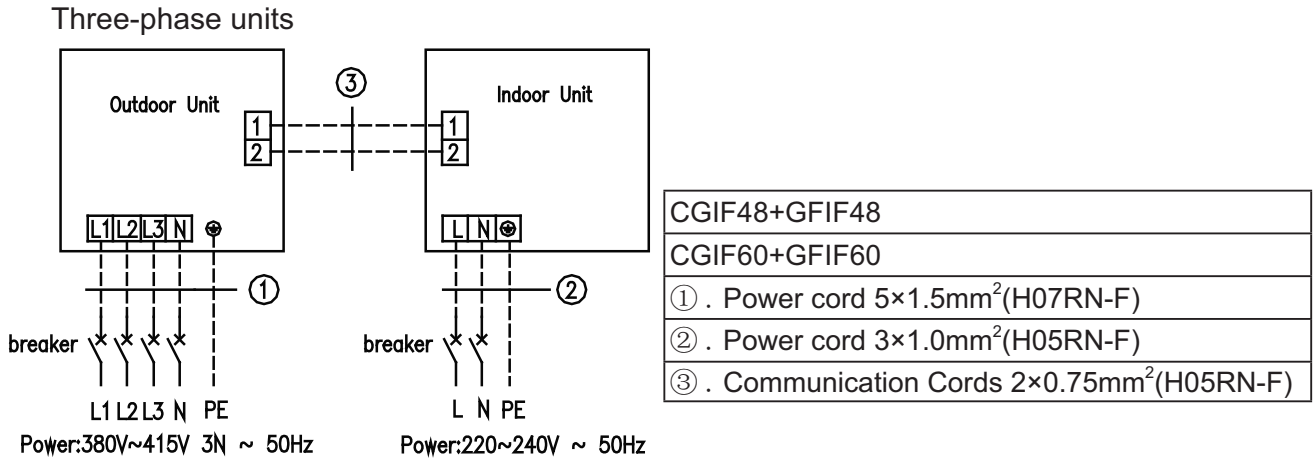

Fig.32
- ① . The power cord and the wire of the fresh air valve are high-voltage, while the communication cord and connection wire of the wired controller are low-voltage. They should run separately against electromagnetic interference.
- ② . The high-voltage and low-voltage lines should pass through the rubber rings at different electric box covers.
- ③ . Do not bundle the connection wire of the wired controller and the communication cord together, or arrange them in parallel, otherwise improper operation would occur.
- ④ . The high-voltage and low-voltage lines should be fixed separately and securely, with internal big clamps for the former and small clamps for the latter.
- ⑤ . Tighten the indoor/outdoor connection cord and power cord respectively on the terminal boards with screws. Faulty connection may cause a fire.
- ⑥ . If the indoor unit connection cord (to the outdoor unit) and power supply are wired incorrectly, the air conditioner may be damaged.
- ⑦ . Connect the indoor unit connection cord properly based on the corresponding marks as shown in Fig. 32.
- ⑧ . Ground both the indoor and outdoor units by attaching a ground wire.
- ⑨ . Unit shall be grounded in compliance with the applicable local and national codes.